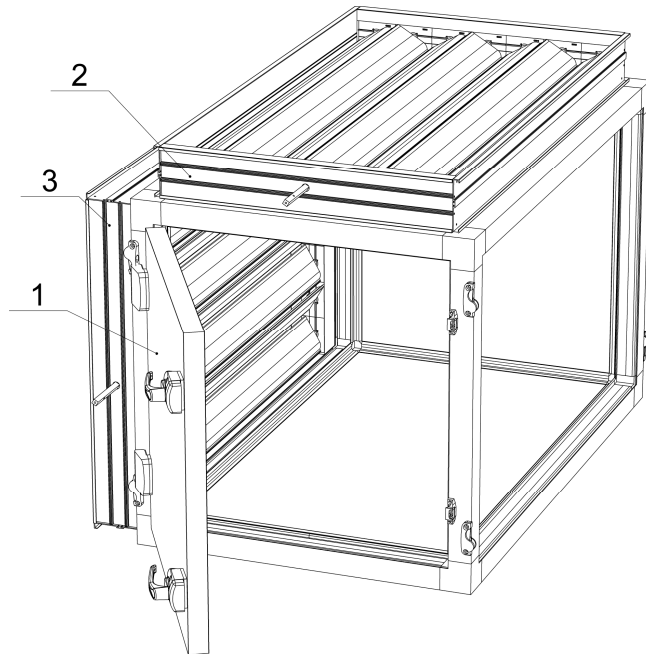

Figure 6.7.1 - One stage mixing section with two dampers outside.
1. One stage mixing section with two dampers outside (Figure 6.7.1).